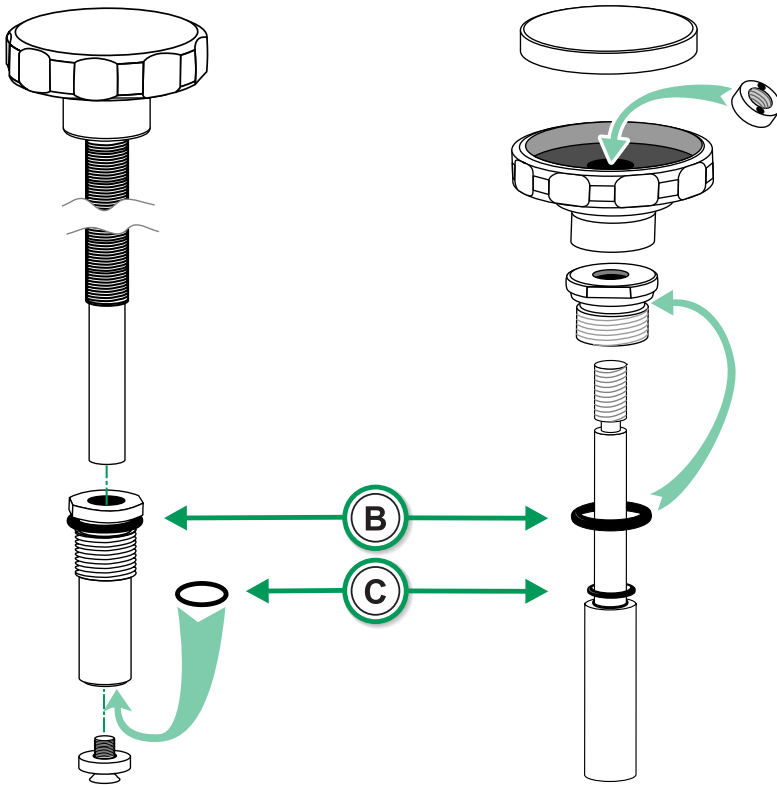

Figure 2. Fine Adjust Section seals (**old model on the left, new model on the right**).
2. Replace the upper seal (B) with the spare part.
4. The lower seal is located at the bottom end of the cylinder as shown in Figure 2 (C, left).
5. Replace the seal (C) with the spare part and reassemble the Fine Adjust Section.